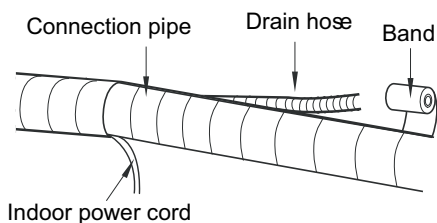

Fig.13
- (2) Reserve a certain length of drain hose and power cord for installation when binding them. When binding to a certain degree, separate the indoor power and then separate the drain hose.(As show in Fig.13)
- (3) Bind them evenly.
- (4) The liquid pipe and gas pipe should be bound separately at the end.